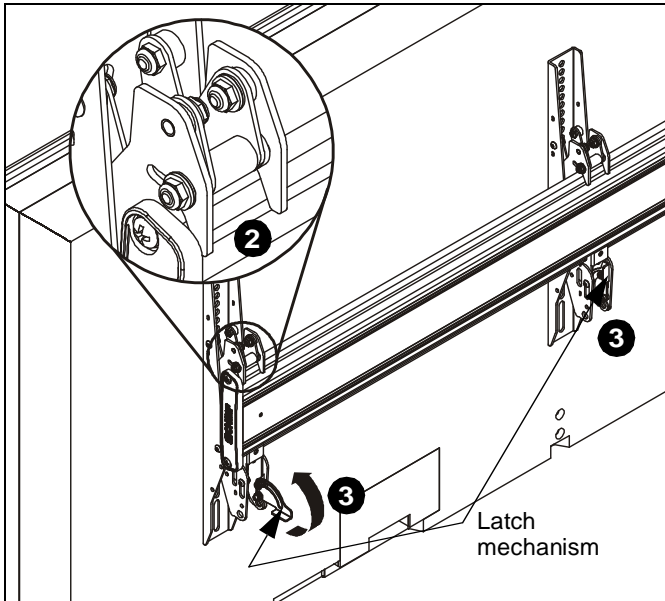

Figure 11
1. Ensure that the latch mechanisms on interface brackets (Q) are already lowered to OPEN position. (See Figure 11)
2. While supporting both sides of display, lower display onto one side of mounting rail, hooking top of interface brackets onto front of mounting rail. (See Figure 11)
3. Raise the latch mechanism on both interface brackets to lock bracket in place. (See Figure 11)